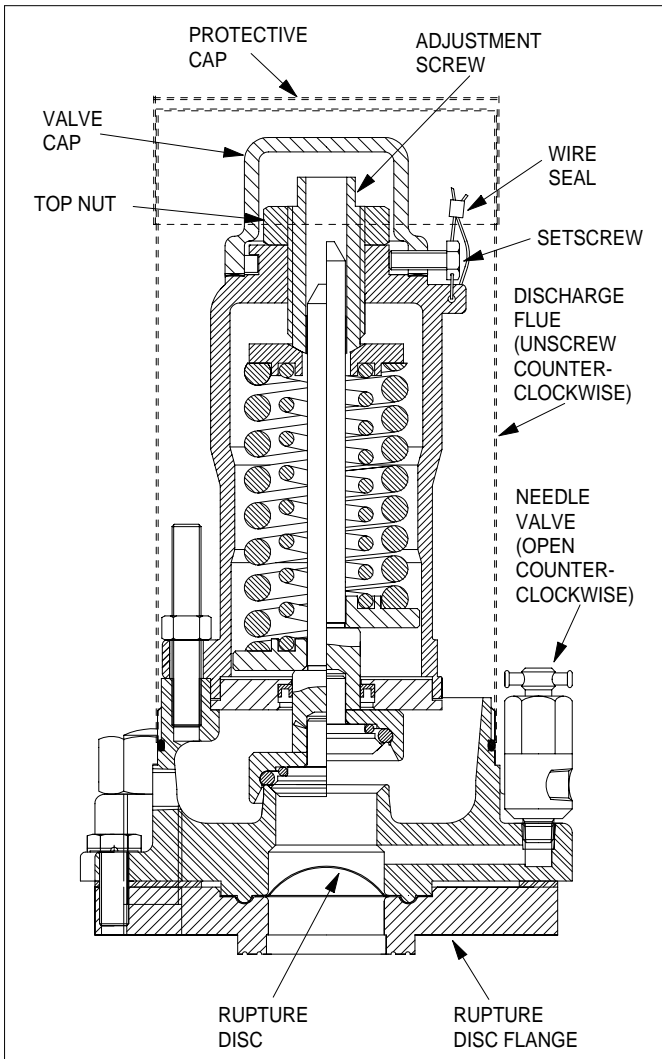

Figure 21 - Valve Components
4.5.2.11 If the valve is a combination device (includes a rupture disc - Fig. 21), install a new rupture disc making sure that the disc and mounting flange are in serviceable condition as specified in **3.0 Valve Inspection**, subsection **3.1.8) Valve Disc** and subsection **3.1.9) Rupture Disc Flange**. Install the rupture disc flange bolts.
4.5.2.13 If there is a needle valve (Fig. 21), pipe plug, or indicator on the side of the valve, open the needle valve or remove the plug or indicator. This is necessary to equalize pressure in the chamber above the disc.